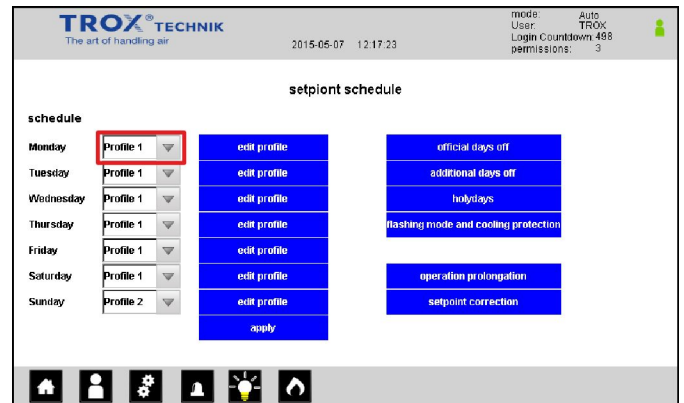

Fig. 27: Editing profiles
- ▶ Select a day of the week (Fig. 27), then select a profile from the list.